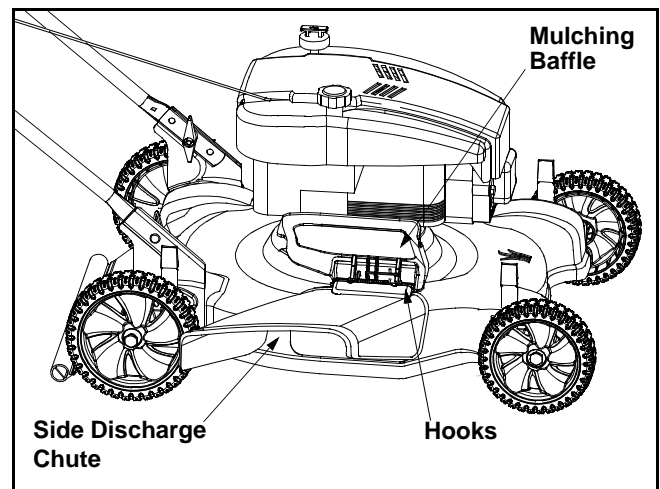

Figure 7
- Slide the hooks of the side discharge chute over the hinge pin on the mulching baffle. Make sure that the hooks snap into place, locking the chute firmly onto the mower. See Figure 7.